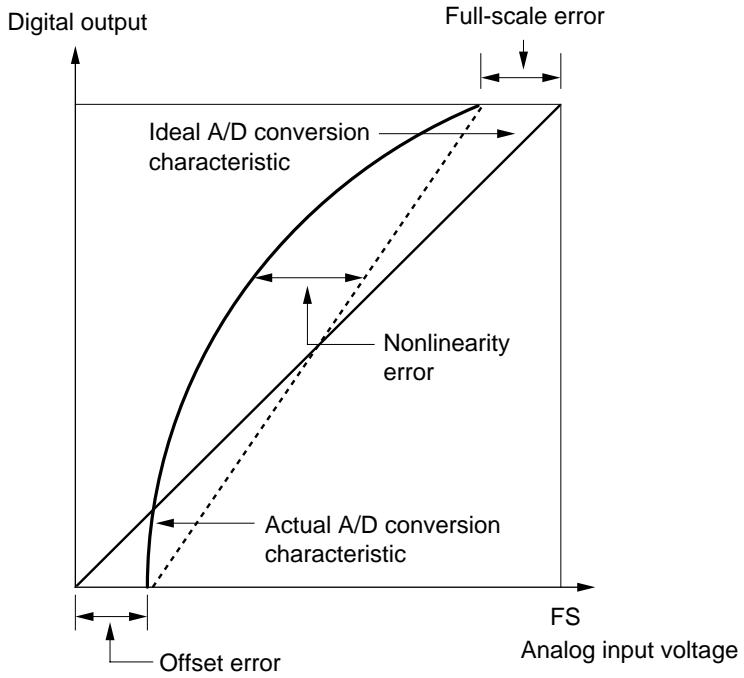

Figure 15-12 A/D Converter Accuracy Definitions (2)
(6) A/D Conversion Accuracy Definitions: A/D conversion accuracy in the H8/538 and H8/539F is defined as follows:
- Offset error: deviation from ideal A/D conversion characteristic of analog input voltage required to raise digital output from minimum voltage value 000000000 to 000000001, excluding quantization error (figure 15-12)
- Full-scale error: deviation from ideal A/D conversion characteristic of analog input voltage required to raise digital output from 111111110 to 111111111, excluding quantization error (figure 15-12)